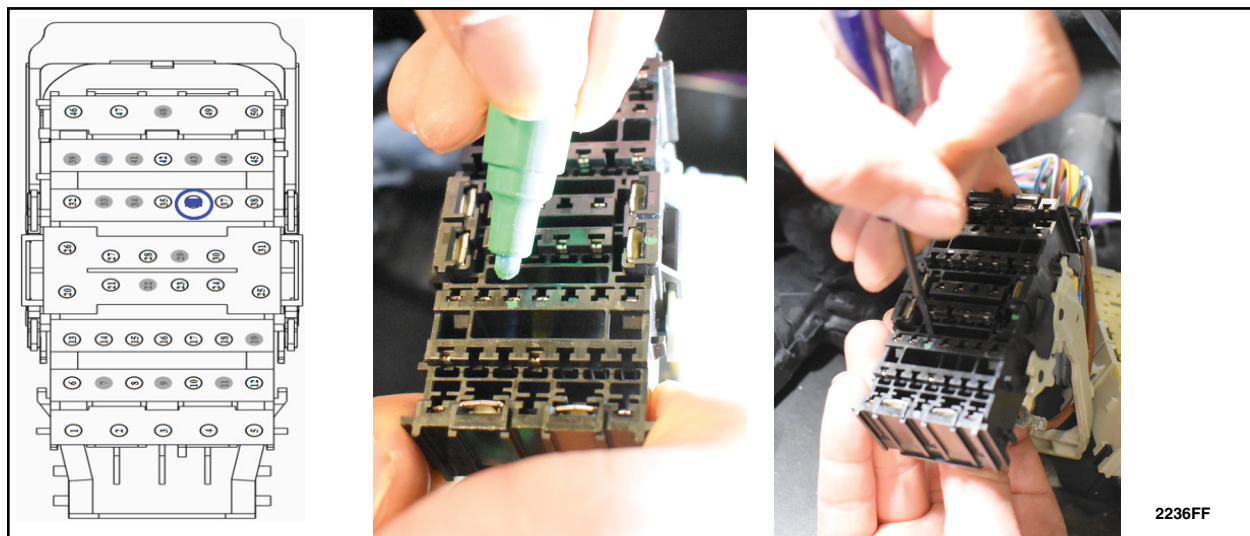

FIGURE 38
44. In connector C1035B identify cavity 36 which contains a gray wire. Remove the gray wire located in cavity 36 from the C1035B connector using a terminal tool See Figure 38.